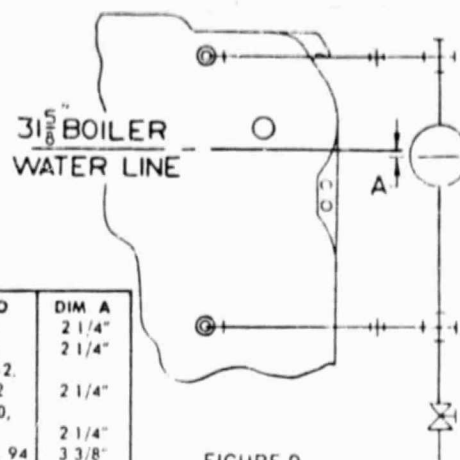

FIGURE 9
the control in accordance with the Control Tapping Table using fittings (not furnished). If a low water cut-off is to be used that is not dimensionally diagrammed in Figure 9, locate the cast-on body mark of the control 2" below the normal water line.
3. Where an optional 1" low water cut-off is employed, install the control in accordance with the Control Tapping Table using the fittings (not furnished) as illustrated in Figure 9. If a low water cut-off is to be used that is not dimensionally diagrammed in Figure 9 refer to the separate manufacturer's instructions for locating the control.